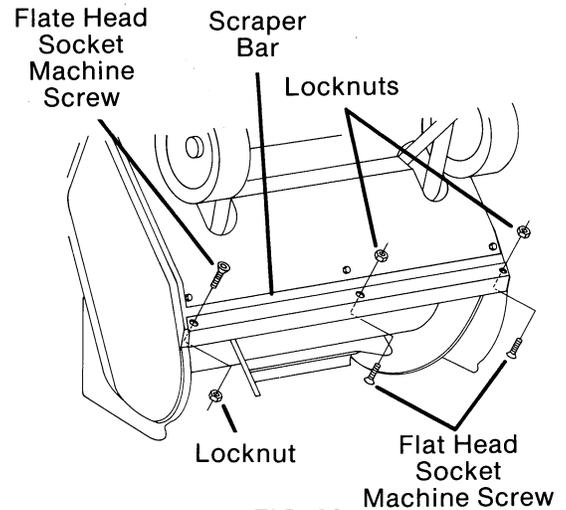

FIG. 26
- A. Remove three flat head socket machine screws and locknuts that hold scraper bar to bottom of auger housing. (Fig. 26) Remove scraper bar.
**IMPORTANT:** Be certain to replace the screws in the same direction as originally installed. (Fig. 26)